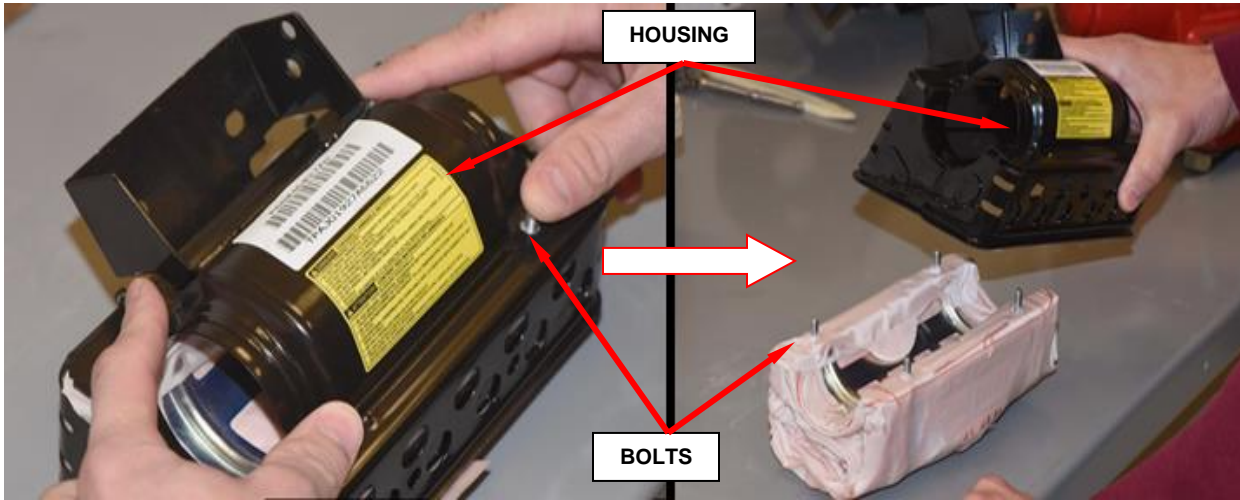

Figure 74 - Remove Airbag Cushion from Housing
- h. Remove airbag cushion from housing by applying pressure to the bolts, set cushion aside (Figure 74).